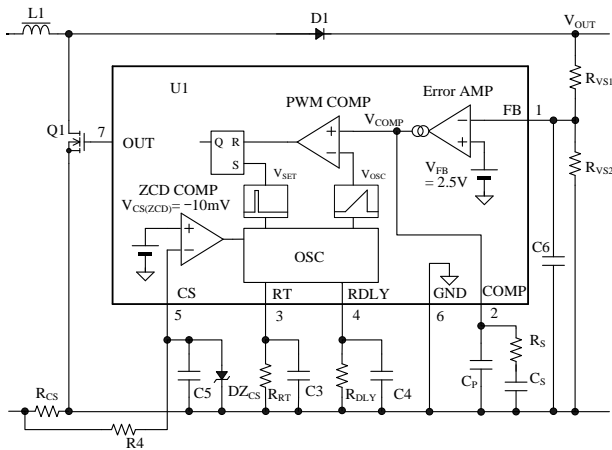

Figure 9-1 The IC peripheral circuit.
Figure 9-1 shows the IC peripheral circuit.
R_{DLY} shown in Figure 9-1 is for the adjustment of the turn-on delay time, t_{DLY} , of the Power MOSFET. As shown in Section 8.5 Zero Current Detection, adjust the value of R_{DLY} and turn-on timing to the bottom point of V_{DS} free oscillation waveform on actual operation in the application. The range of R_{DLY} is 15 k Ω to 56 k Ω .
R_{CS} shown in Figure 9-1 is current sensing resistor. R_{CS} is calculated by the following Equation (7), where Overcurrent Protection Threshold Voltage $V_{CS(OC)}$ is -0.60 V and I_{LP} is calculated by Equation (1).